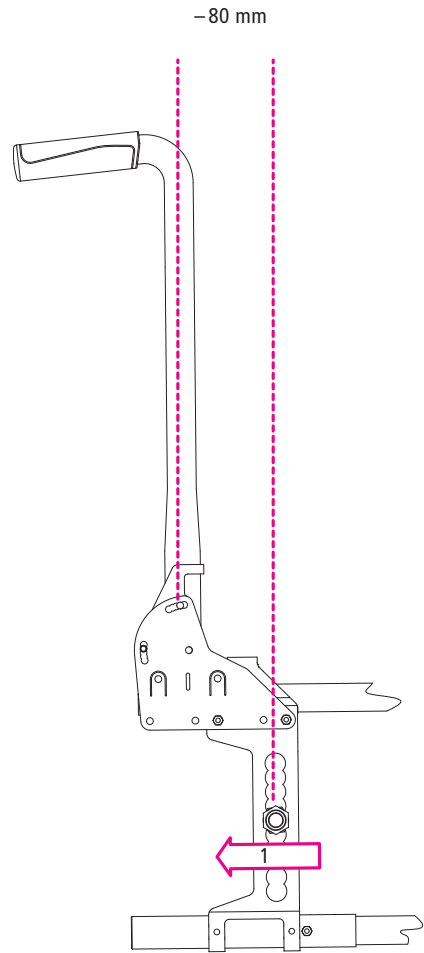

Fig. 49
2. To achieve intermediate increments, the plates are exchanged from left to right and rotated by 180 ° (1, Fig. 49).